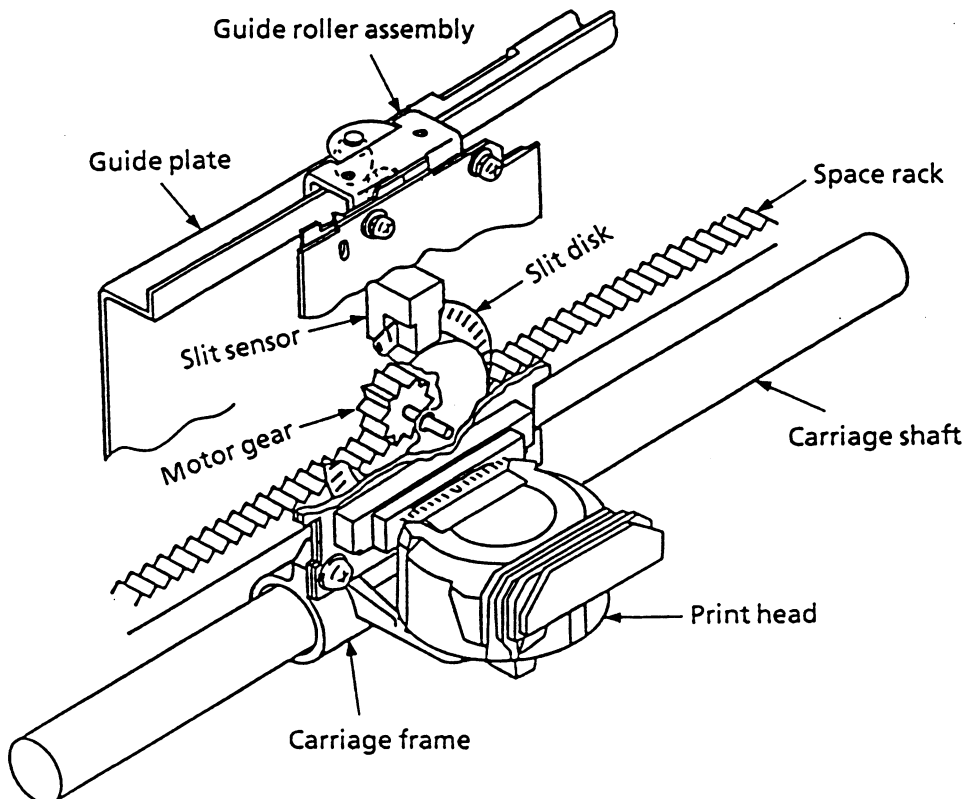

Figure 3-4
3.2.2 Spacing (See Figure 3.4.)